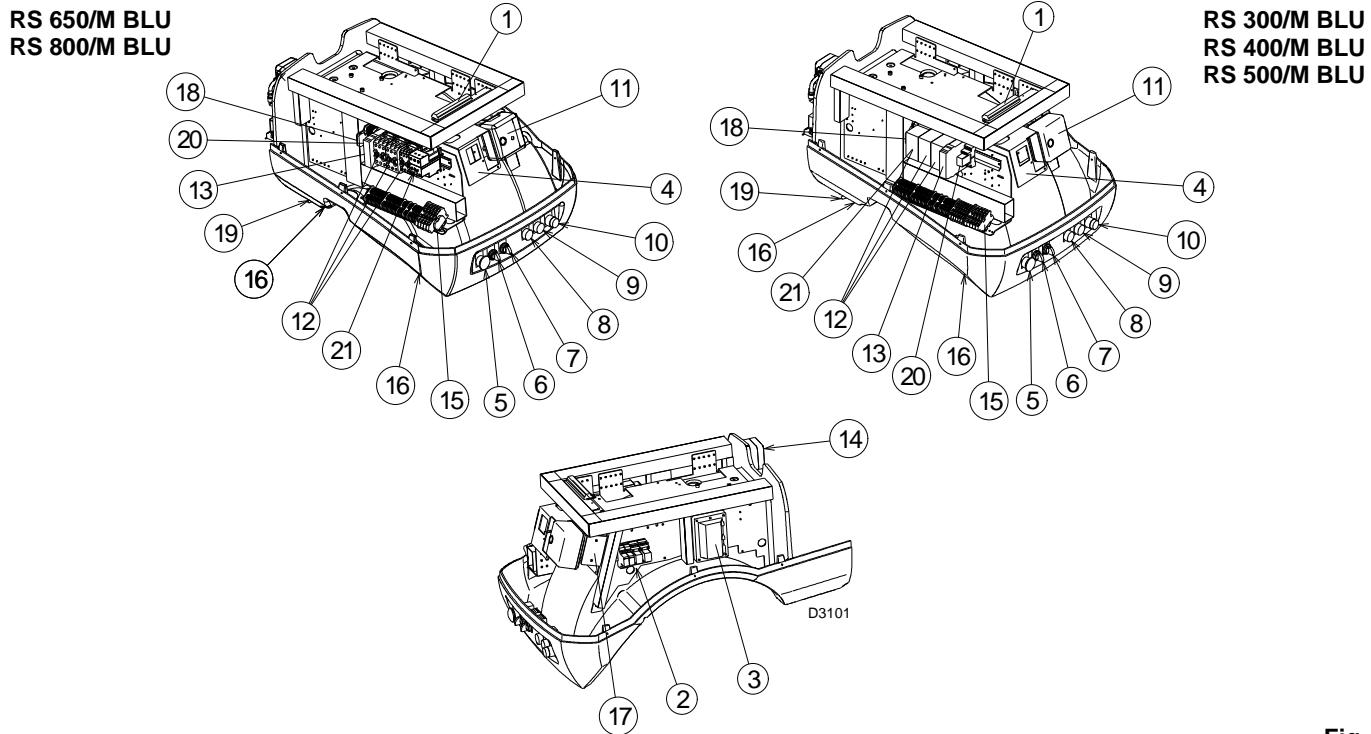

Fig. 5
- **Control box lockout:** if the control box button (**red led**) 11 (Fig. 5) and the backlit button 10 light up, it indicates that the burner is in lockout. Release by pressing the pushbutton 10).